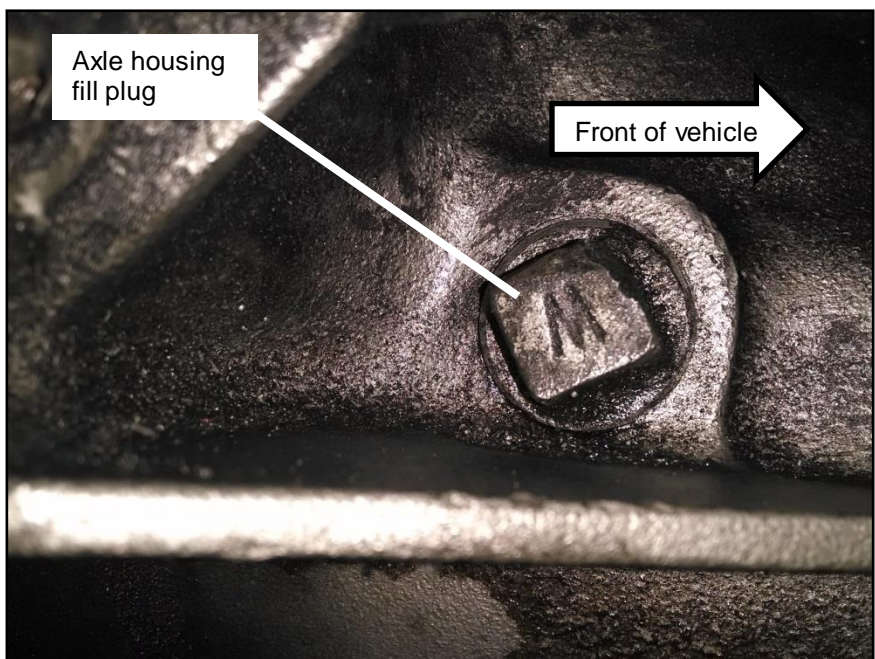

Figure 1
**STEP 3.** Remove the axle housing fill plug with a 5/8" wrench (See Figure 1).